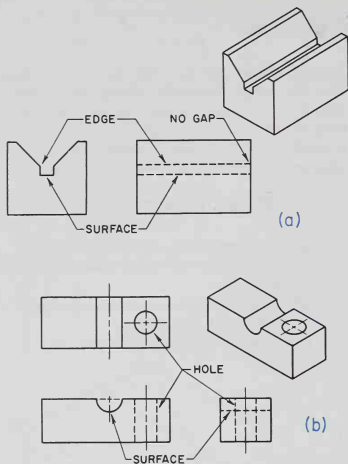

Fig. 3-11. Hidden lines and surfaces.
Edges, surfaces and corners not visible in a particular view are shown by hidden lines, Fig. 3-11. In this way, the worker is able to "see" hidden edges and better visualize the object. Note the construction of the hidden line in Fig. 3-11 (e).
1. Start with a dash joining the object line, Fig. 3-11 (a).
2. Dashes join at hidden corners, Fig. 3-11 (c).
3. Hidden arcs begin with a dash at the point of tangency, Fig. 3-11 (d).